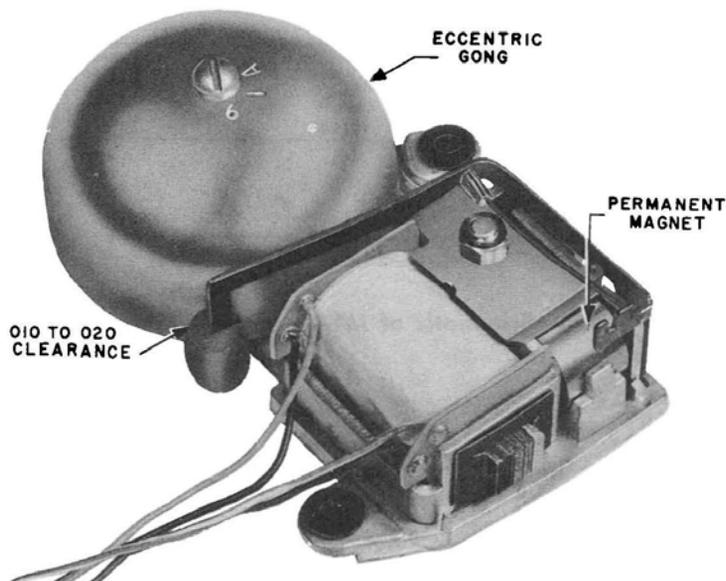

Fig. 1 - M1A Ringer
2.02 The M1A (Fig. 1) and N1A (Fig. 2) ringers are single-coil, single-gong ringers. The coil is tapped, making party identification possible. The ringers are designed to operate in series with an 0.45-mf capacitor.